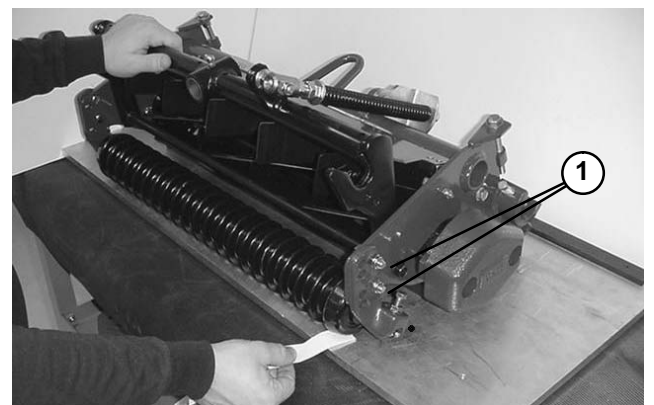

Figure 17
2. Level front roller to reel by loosening the 4 capscrews holding the front roller brackets and rotating the front roller until it contacts the surface that the plate is on. Tighten the capscrews and make sure that the roller has not changed position. To prevent moving the roller bracket when tightening (Fig. 17), hold the nut while tightening capscrew.
Note: Try to slide a piece of paper under each end of roller to make sure there is contact (Fig. 17).